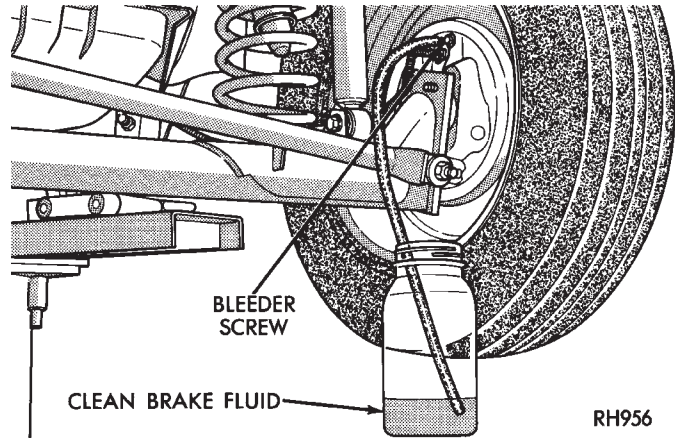

Fig. 3 Bleeding Brake System
(6) Connect a transparent hose to the caliper bleed screw (Fig. 3). Submerge the free end of the hose in a clear glass container, which is partially filled with clean, fresh brake fluid.
(7) With the pressure bleeder turned on, open the caliper bleed screw 3/4 to one full turn allowing brake fluid to flow into the container. Leave bleed screw open until a clear, bubble-free flow of brake fluid is coming from the hose in the container. If the reservoir has been drained or the hydraulic assembly removed from the car before the bleeding operation. Slowly pump the brake pedal one or two times while the bleed screw is open and fluid is flowing. This will help purge any trapped air from the hydraulic assembly. Tighten bleeder screw to 10 N•m (7.5 ft. lbs.) torque.
(8) Step 7 above should be done at all wheel brakes, following the order wheel by wheel as listed below.
(9) After bleeding is completed at all four wheel brakes. Remove pressure bleeding equipment and bleeder adapter, by closing pressure bleeder valve and slowly unscrewing pressure bleeding adapter from hydraulic assembly reservoir. **Failure to release pressure in the reservoir will cause spillage of brake fluid, and could result in personal injury or damage to painted surfaces.**
(3) Connect a transparent hose to the bleed screw on the wheel cylinder or brake caliper that is to be bled (Fig. 3). Submerge the free end of the hose in a clear glass container, which is partially filled with clean, fresh brake fluid.
(4) Slowly pump the brake pedal several times, using full strokes of the pedal and allowing approximately five seconds between pedal strokes. After two or three strokes, continue to hold pressure on the pedal, keeping it at the bottom of its travel.
(5) With pressure on the pedal, open the bleed screw 3/4 to 1 full turn. Leave bleed screw open until fluid no longer flows from the hose. Tighten the bleed screw and release the pedal. **Be sure that the bleed screw is tightened before brake pedal is released, or air may be drawn back into hydraulic system.**
(6) Repeat Steps 3, 4 and 5 on each wheel brake, until clear, bubble-free fluid flows from the hose.
(7) Repeat the above sequence at each wheel brake, in the following order: